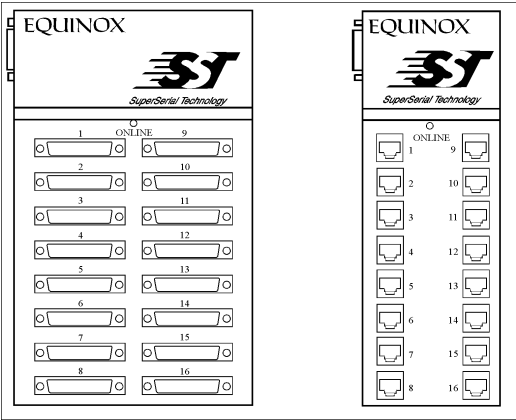
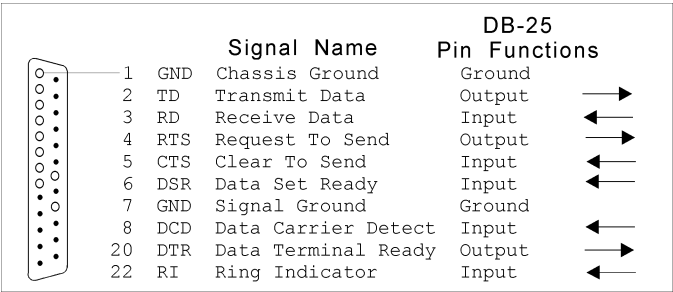
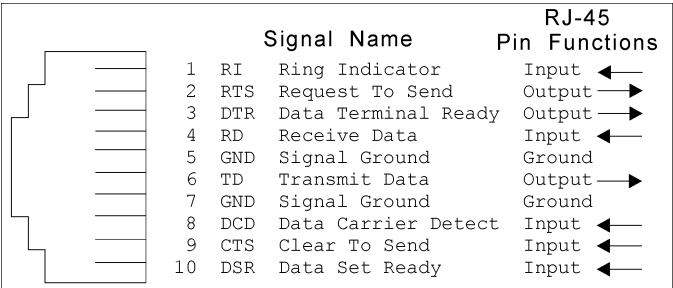

Figure 2. DB-25 and RJ-45 Connector Panels
Figure 3. DB-25 Connector Panel Pinouts
Figure 4. RJ-45 Connector Panel Pinouts
SST-16P Connector Panels (CP) provide sixteen RS-232 interfaces. There are two types of CPs available from Equinox as shown in Figure 2 below. The DB-25 CP has sixteen male DTE connectors (see Figure 3 below). The RJ-45 CP has sixteen 10-wire female RJ-45 connectors (see Figure 4 below).